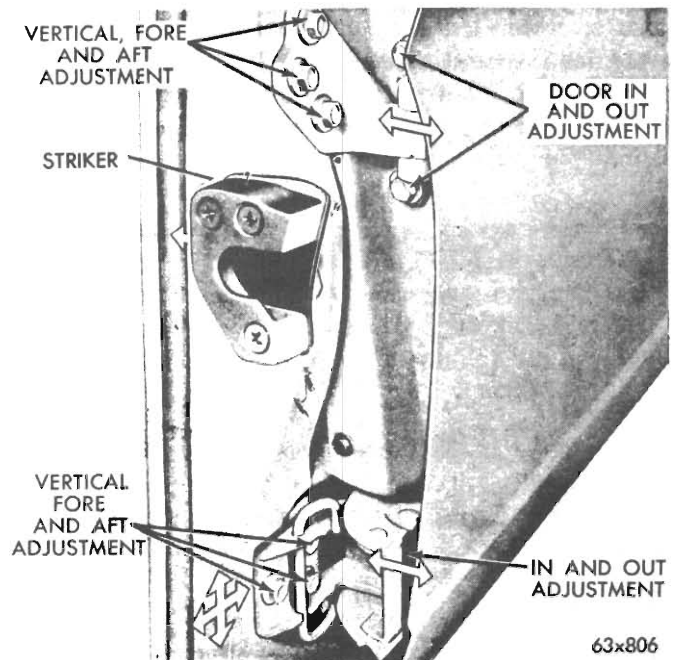

Fig. 15 - Rear door hinge adjustment (typical view)
(1) With the rear door fully closed and front door open, scribe the location of both upper and lower hinges on the frame of the door, as shown in *Fig. 15*.
(2) With the door slightly ajar, position a floor jack under the centre of the door.
(3) Loosen the hinge to door attaching bolts.
(4) Observe the scribe mark and raise or lower the door to the desired position.
(5) Tighten attaching bolts, close the door and check alignment in the door opening, also lock and striker engagement.
(1) With the rear door in the closed position and front door open, scribe around the pillar post hinge plate.
(2) Loosen both upper and lower pillar post hinge bolts (*see Fig. 15*).
(3) With the rear door slightly ajar, push the door forward or back to the desired position.
(4) Tighten pillar post hinge bolts.
(5) Close the door and check alignment in the door opening and striker engagement.
(6) Replace lower hinge cover and screws.
(1) Scribe a mark on the door around the door hinge plate (Upper).
(2) Loosen upper hinge attaching bolts (*see Fig. 15*).
(3) Grasp the front edge of the door at the hinge and push door in or pull out to the desired position.
(4) Tighten the hinge attaching bolts. (Adjust one hinge at a time to prevent door from dropping in the door opening.)
(5) Scribe the lower hinge door plate and loosen attaching bolts.
(6) Adjust lower portion of door as in steps 3 and 4.